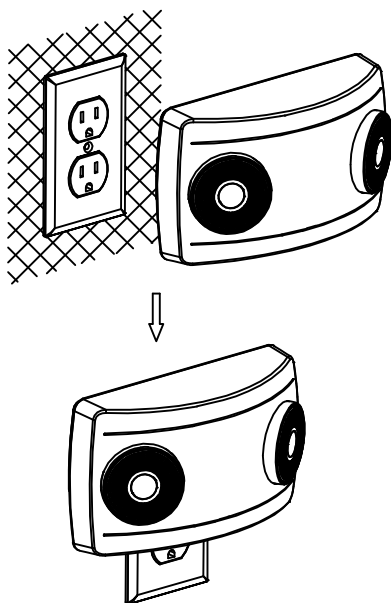

Fig 2
2. Insert the unit plug on the wall socket(see Fig 2).